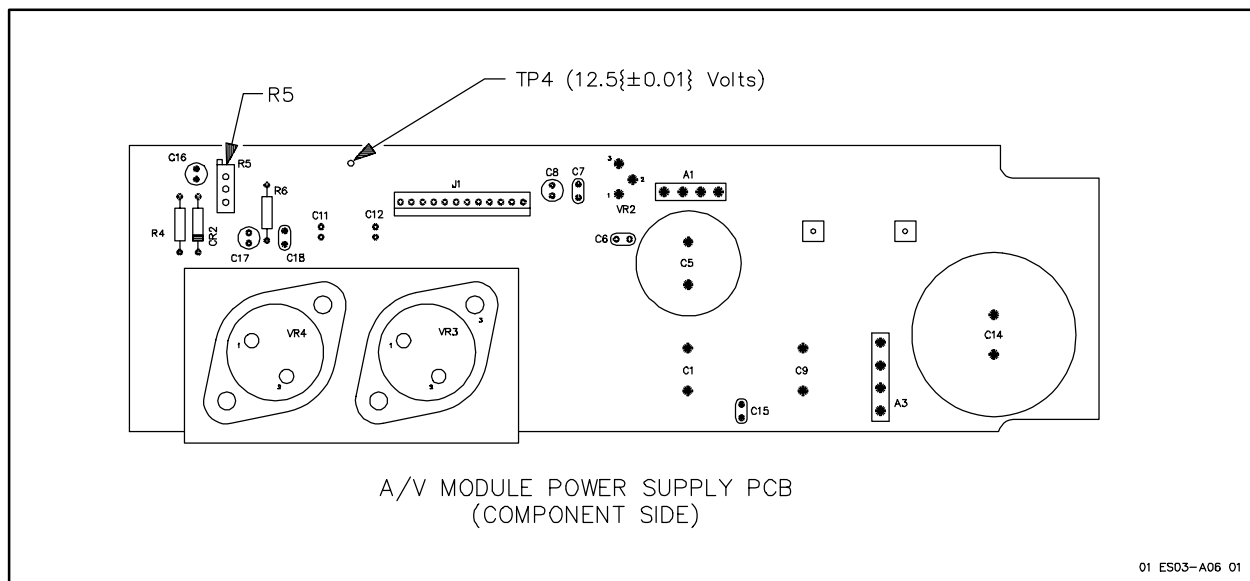

Figure 3-8. A/V Module Power Supply Adjustment Locations
3-7 A/V Module (Figure 3-8)
5. Adjust R5 (Figure 3-8) for 12.5 (± 0.01) volts. Power supply load is not required.